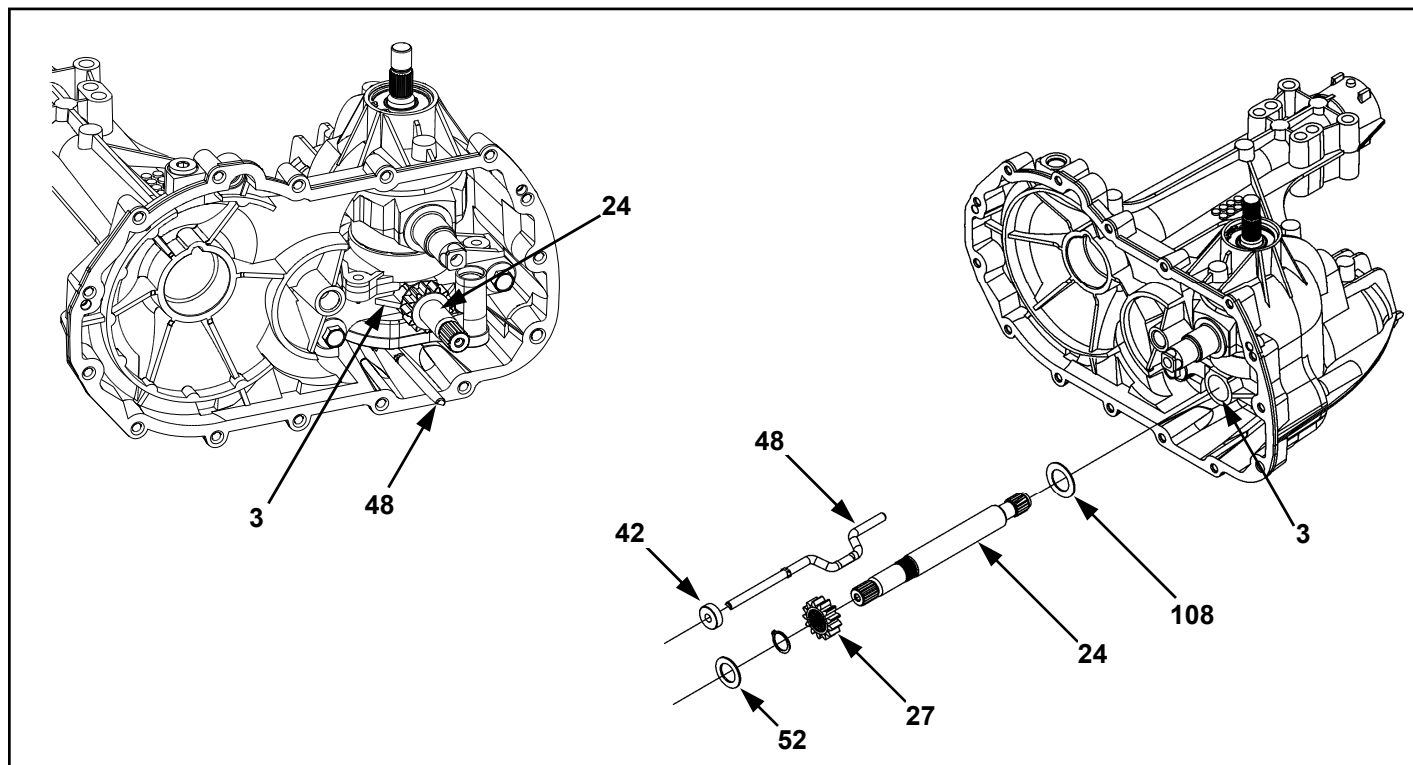
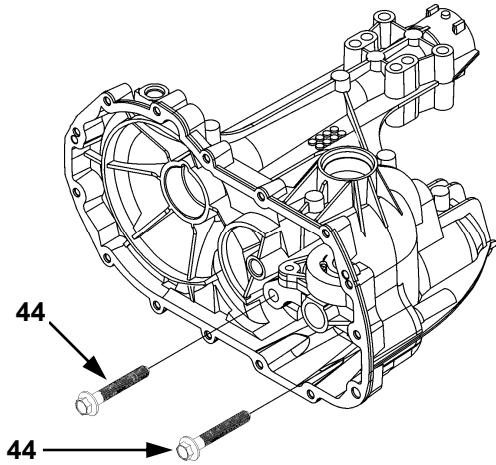
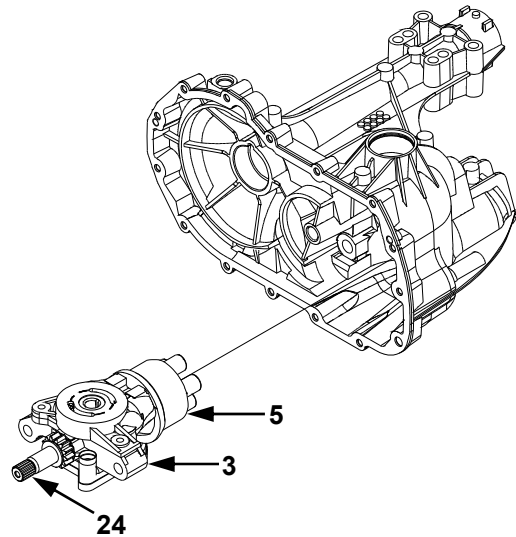
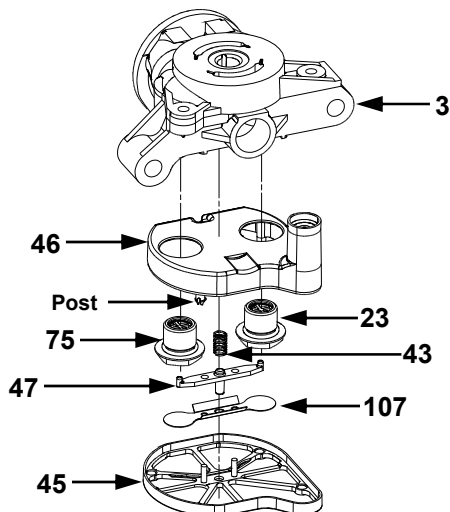

Figure 13. Motor Shaft & Bypass Rod Assemblies
Figure 19
Figure 23
Figure 21
Refer to Figure 13.
14. **(See Fig. 19)** Remove the center section mounting screws (44). NOTE: The center section is under motor block piston spring pressure. These screws are factory installed to 700 in. lbs. (80 Nm) and use an anaerobic thread adhesive. A breaker bar will be required at this step. Clean the internal threads of the mounting holes with compressed air.
16. **(See Fig. 21)** Remove the filter (45) from the filter base (46) by snipping the four posts with side cutters or applicable tool. NOTE: This filter cannot be reused.
17. Remove and inspect the deflector (107), bypass actuator (47) and bypass spring (43).
18. Note the location of both check plugs (23 & 75) before removal for correct placement during reassembly. Remove and inspect the check plug assemblies (23) for debris or damage.
19. Remove the filter base (46) and discard it. NOTE: The filter base is included in the filter kit to be installed during reassembly of the unit.
3. (See Fig. 21) Install the new filter base (46) onto the center section (3).
4. Install the check plugs (23 & 75), in their correct location, into the center section (3). Tighten the check plugs according to Table 5.
5. Install the bypass spring (43) into the filter base (46).
6. Install the deflector (107) into the underside of the filter (45).
7. Install the bypass actuator (47) into the underside of the deflector (107).
8. Hold the stem of the bypass actuator (47) from the top of the filter (45) to retain the deflector (107) and bypass actuator (47) in place when snapping the filter (45) onto the filter base (46). NOTE: Filter installation is best accomplished by using the spacer (65, Page 32) as an assembly tool over each of the (4) snaps while lightly tapping with a rubber mallet. Excessive force will result in damage to the plastic filter components.
9. (See Figures 13 & 23) Install the motor shaft (24), pinion gear (27) and flat washers (52 & 108) into the center section (3).
10. Assemble the motor block assembly (5) onto the motor shaft (24).
11. (See Fig. 23) Install the motor shaft, center section and motor block assembly so that the block pistons contact the thrust bearing race. NOTE: Hold in place and insure all pistons are still positioned correctly in the cylinder bore by confirming spring bias against the center section.
12. (See Fig. 19) After applying thread adhesive, insert the center section mounting screws (44) while holding downward pressure on the center section assembly (3, Fig. 23).